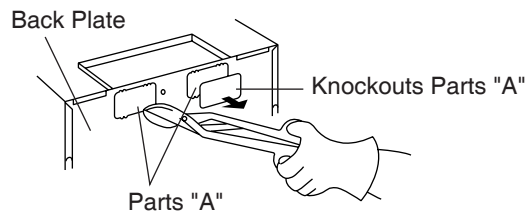

Fig. 1-3-2
- (4) Use side cutters or tin snipper to cut and remove knockout parts "A" from back plate. Discard knockouts. File the openings smooth to prevent injury caused by sharp edges. (Fig. 1-3-2)